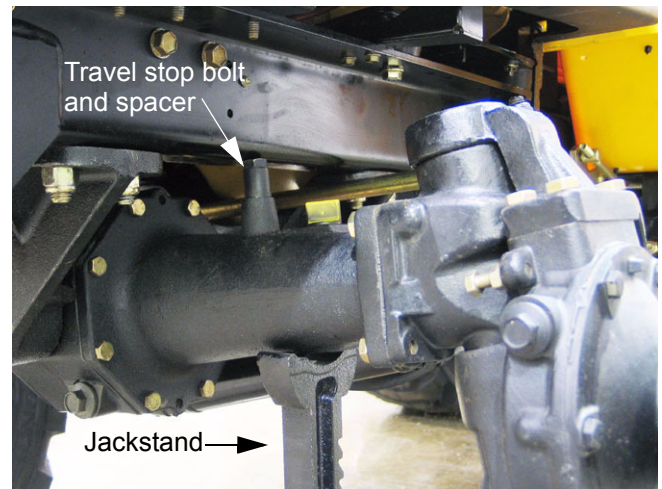

Figure 5.1
- 5.1. Lift and safely support the side that is to be serviced. See Figure 5.1.